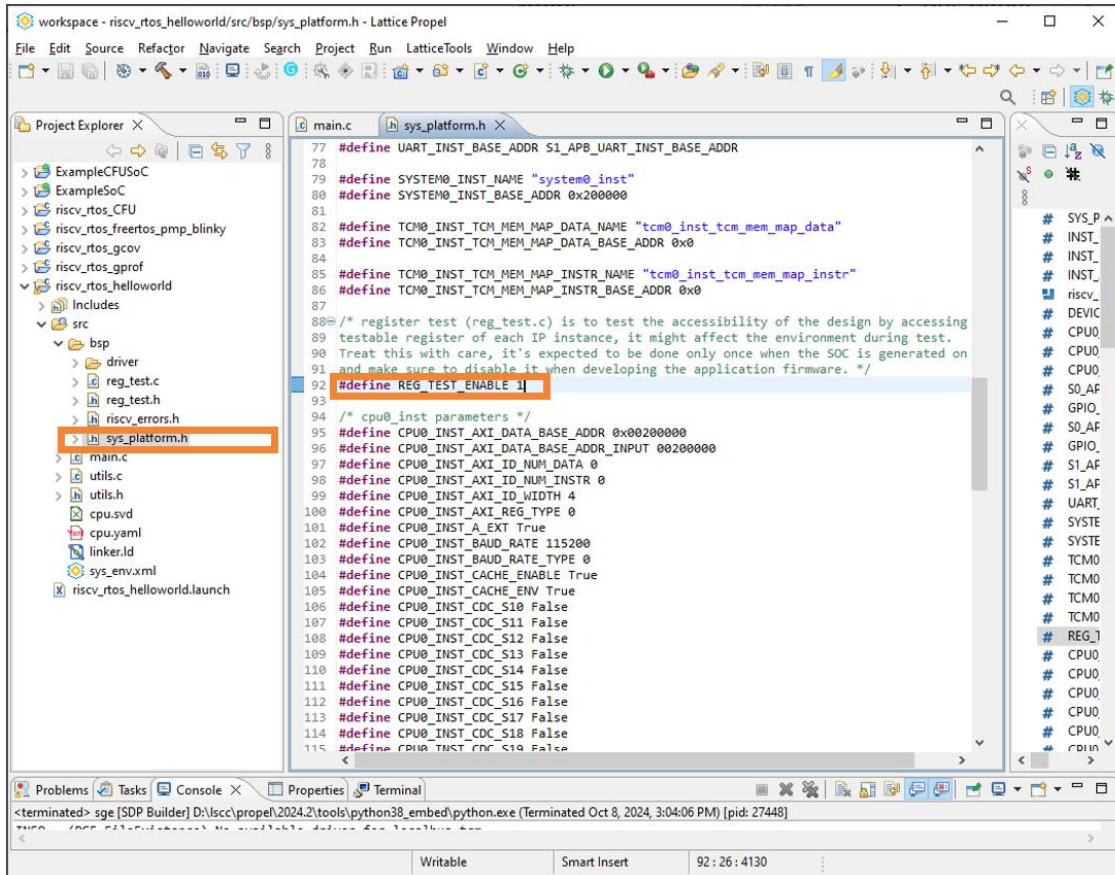

Figure F.5. Enabling Test Code
2. Set `define REG_TEST_ENABLE` to 1 in the `sys_platform.h` file (Figure F.5).